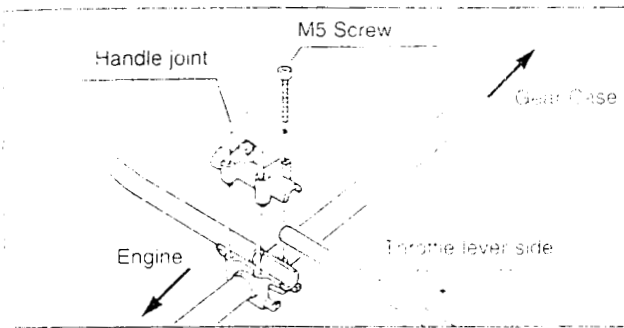

Fig. 5
1. Match the protrusions on the handle joint to the slot in the underside of the handle and tighten the four socket head bolts M5 evenly to secure the handle. (Fig. 5,6)